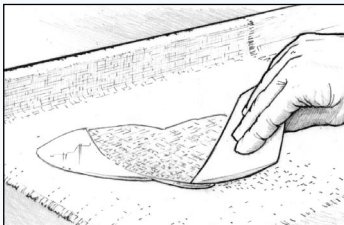

Figure 29 Spread the epoxy over the cloth surface with a plastic spreader.
5. Spread the epoxy over the cloth surface with an 808 Plastic Squeegee, working the epoxy gently from the pool into the dry areas (Figure 29). As the fabric is wet out it becomes transparent, indicating the cloth has absorbed sufficient epoxy. If applying cloth over a porous surface, ensure that sufficient epoxy is left to absorb into both the cloth and the surface below. Try to limit the amount of squeegeeing as excessive “work” on the wet surface produces minute air bubbles which are placed in suspension in the epoxy. This is especially important if a clear finish is required.